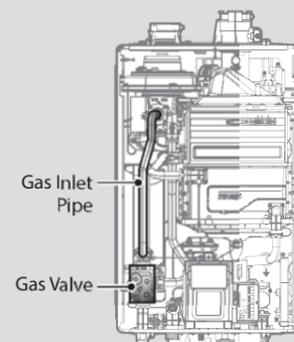

Figure 2. NPE-A2/S2 Series
- Once the front cover is removed, place it in a safe location to prevent accidental damage. With the internal components exposed, locate the gas inlet pipe and the Gas Valve near the left side of the unit which are highlighted in Figure 2.